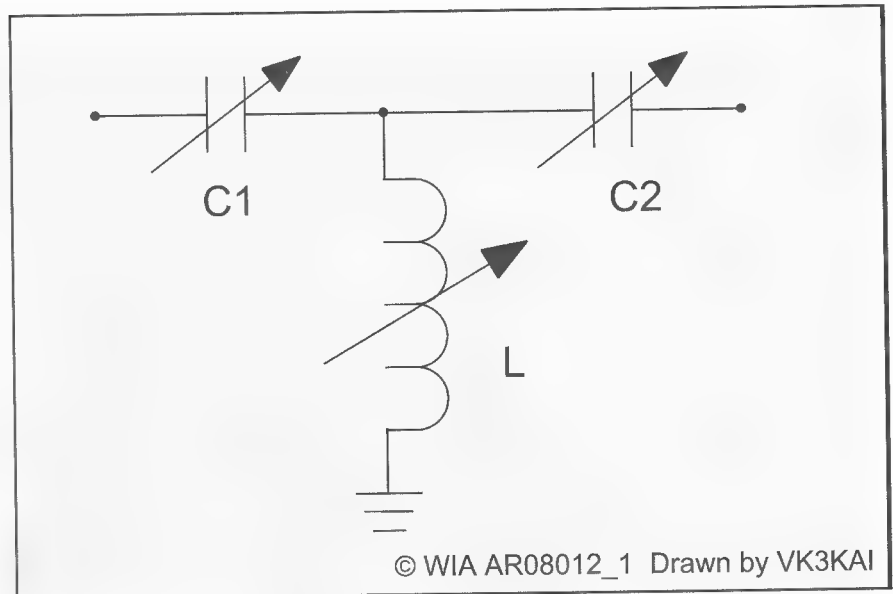

Figure 1: A simplified version of the T circuit of the antenna tuner.
First, let us look at the 'T' circuit in Figure 1. Pretty simple – just a capacitor (C1) in series with the input, then a shunt inductor (L) to ground, then another series capacitor in the output side. So how does it work?